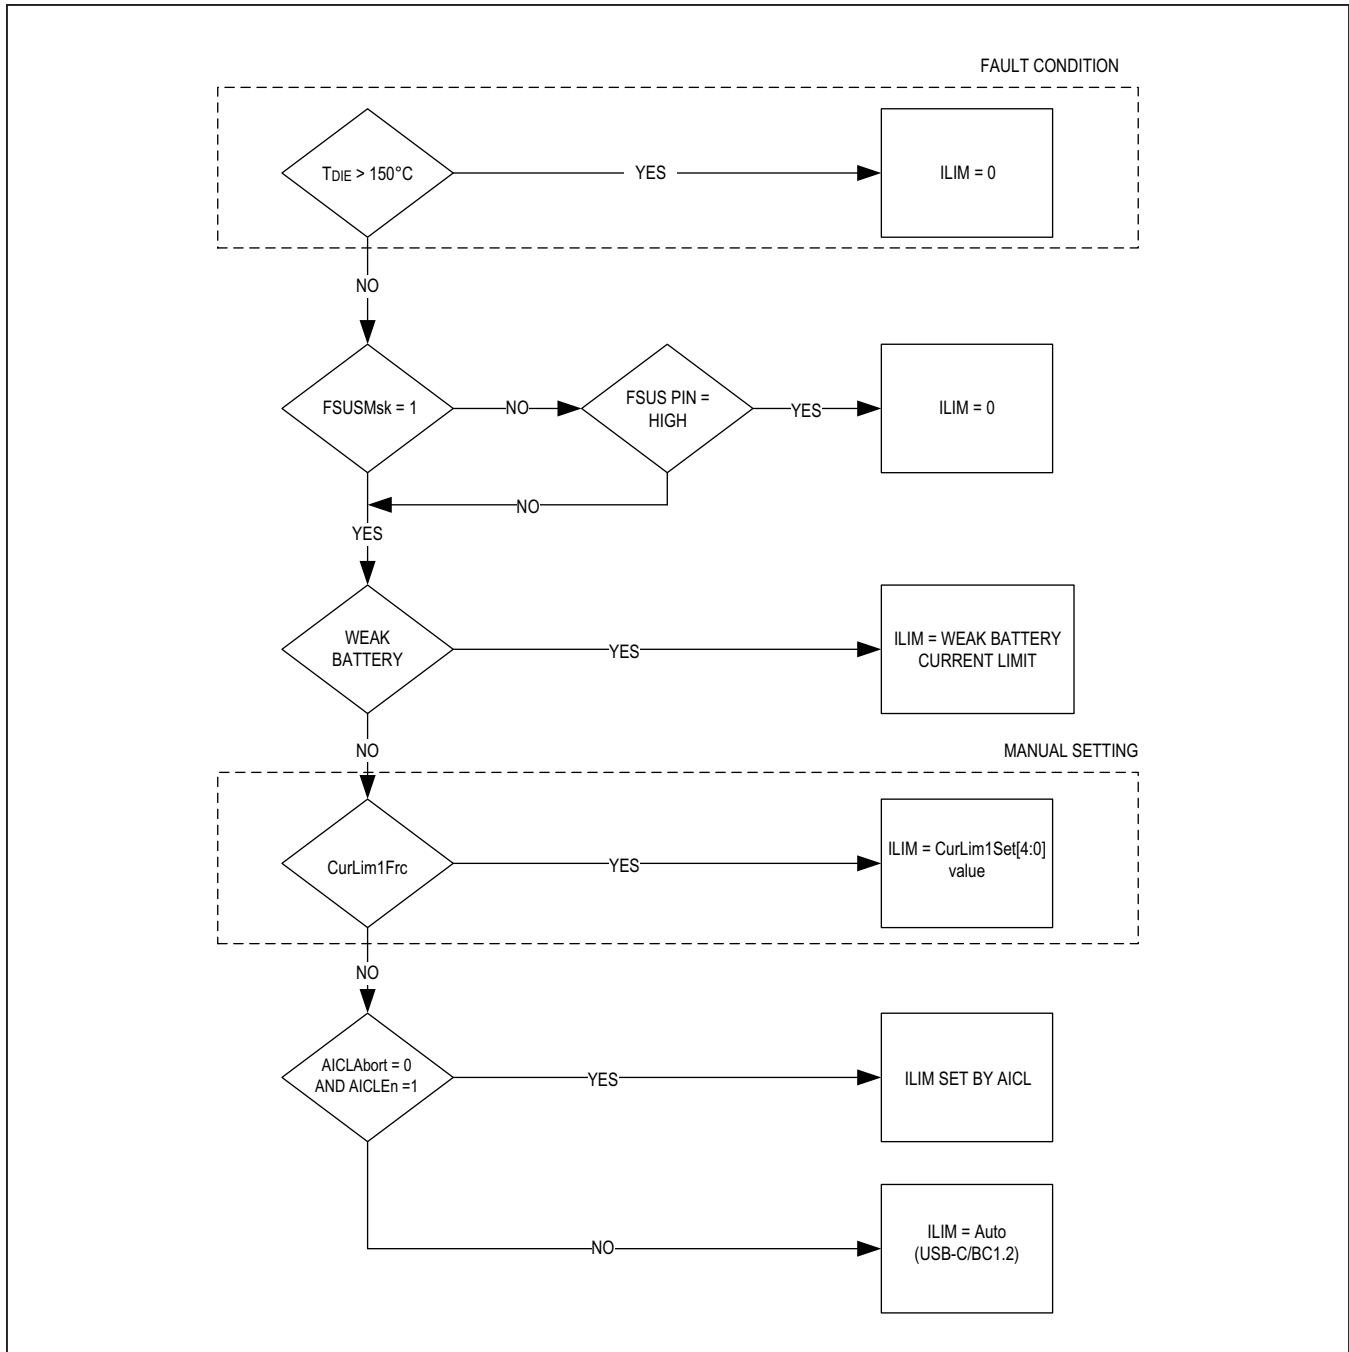

Figure 1. Input Current Limit Settings Flow Diagram
- 1) CHGIN Input Current Limiting: The CHGIN input current is limited to prevent input overload. The current limit can be automatically selected through charger detection to match the capabilities of the source. The result is indicated by SpvChgLim[4:0] in register 0x22. See Table 1a for more details. It can also be manually set through CurLim1Frc and CurLim1Set[4:0] in register 0x21. Figure 1 illustrates how the current limit setting is selected.